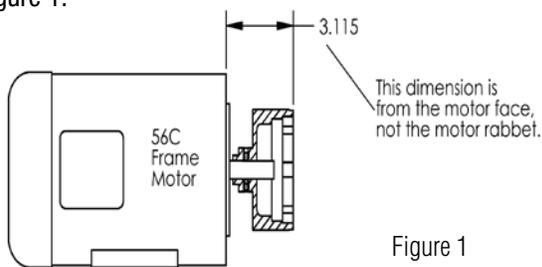

Figure 1
2. Slide drive magnet assembly (item 6) onto the motor shaft until it is between 3.110" and 3.120" as measured from the motor face to the top of the drive magnet assembly. See Figure 1.